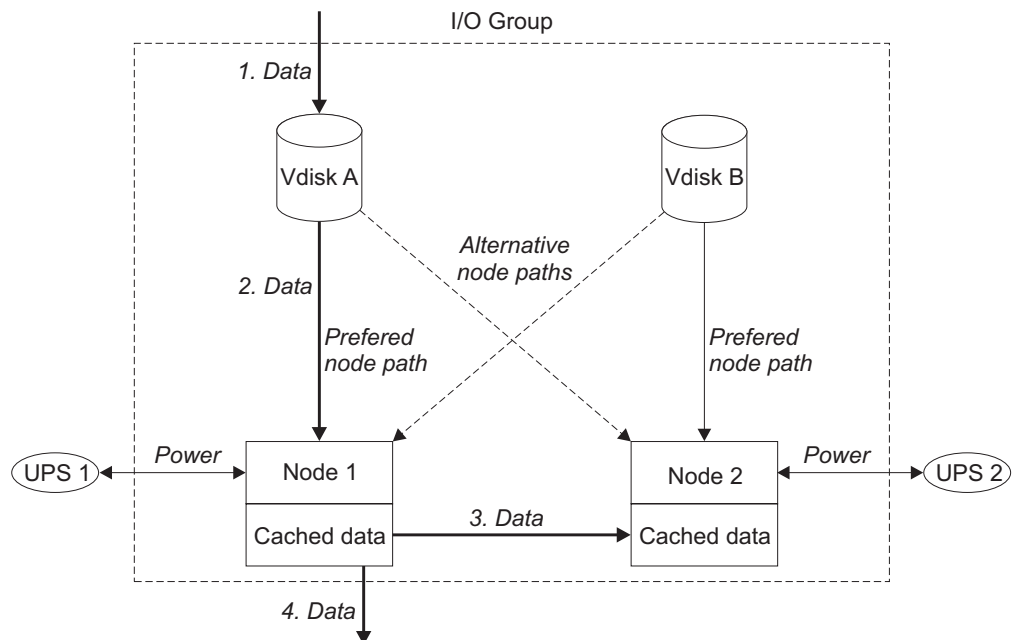

Figure 3. I/O group and UPS
Figure 3 shows an example I/O group. A write operation from a host is shown (item 1), that is targeted for VDisk A. This write operation is targeted at the preferred node, Node 1 (item 2). The write operation is cached and a copy of the data is made in the partner node, the Node 2 cache (item 3). The write operation is now complete so far as the host is concerned. At some time later the data is written, or de-staged, to storage (item 4). The figure also shows two UPS units (1 and 2) correctly configured so that each node is in a different power domain.